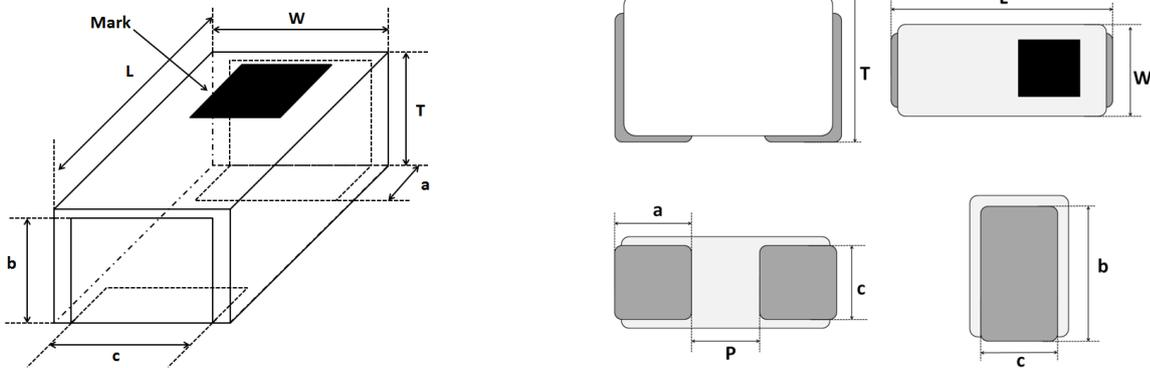

Fig. 4-1
- 4.1 Dimensions and recommended PCB pattern for reflow soldering: See Fig.4-1, Fig.4-2 and Table 4-1.